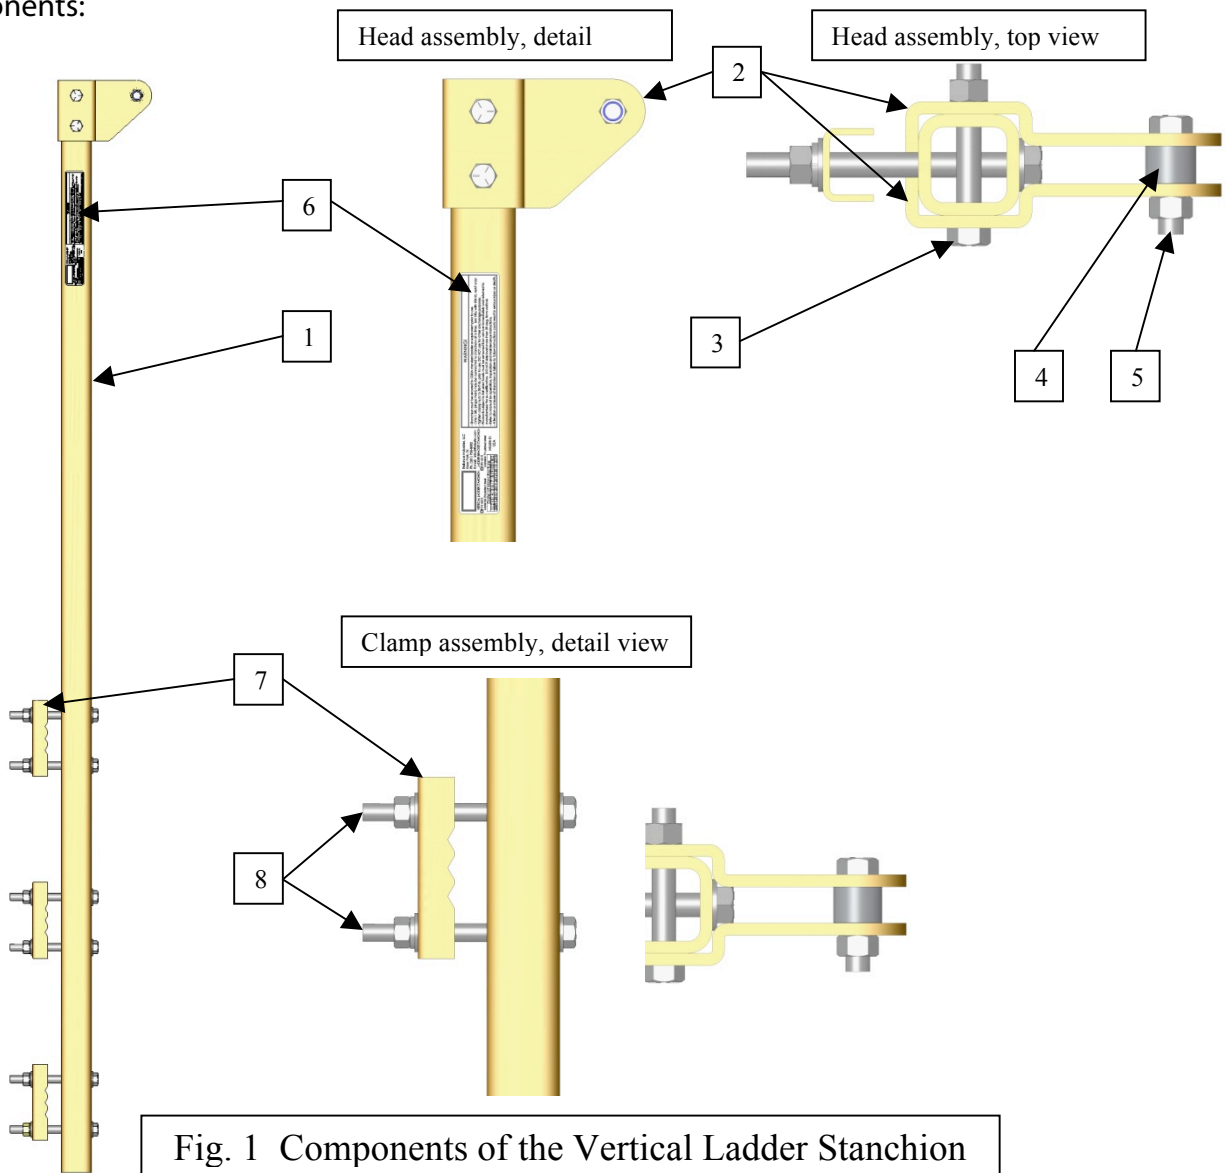

Fig. 1 Components of the Vertical Ladder Stanchion
1. Remove the 3 ea. rung clamps from the Stanchion by removing the 6 sets of nuts and washers, and the 3 rung clamps from the 6 bolts; leave the 6 bolts inserted in the Stanchion (see Fig. 1 for parts identification).